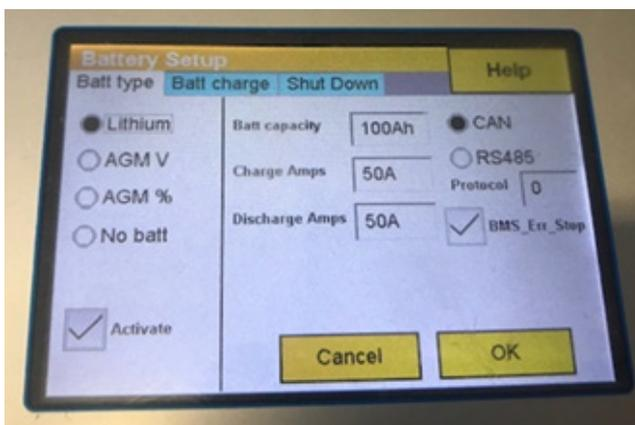

Figure 11: Battery Setup - Batt Type settings
- On the "Batt type" tab, select the "Lithium" tick box. Refer to figure 11
- Then tick "BMS_Err_Stop" as shown in Figure 11.